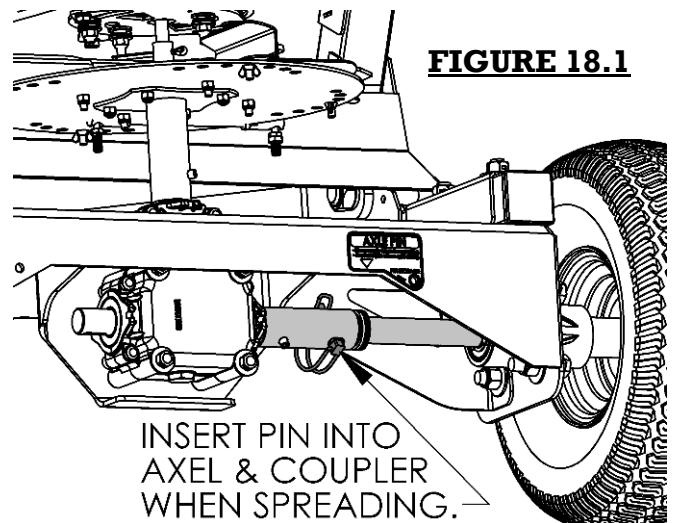

FIGURE 18.1
- **Ensure the axle locking pin is in place. SEE FIGURE 18.1** Once the Drive axle is attached to the Gearbox, the Spinner Disc will spin upon forward or backwards movement of the spreader.